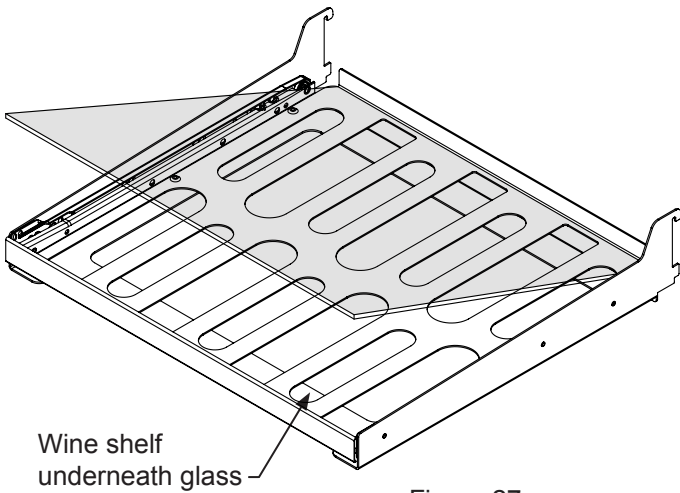

Figure 27
- (1) wine cutout and flat glass cantilever shelf. (See Figure 27).